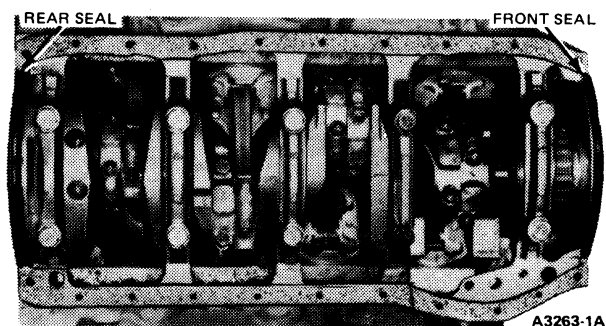

FIG. 30 Oil Pan Gasket and Seals Installed—Typical
3. Coat the block surface and the oil pan gasket with sealer. Position the oil pan gaskets on the cylinder block (Fig. 30).
5. Position the oil pan rear seal on the rear main bearing cap (Fig. 30). Be sure the tabs on the seal are over the oil pan gasket.